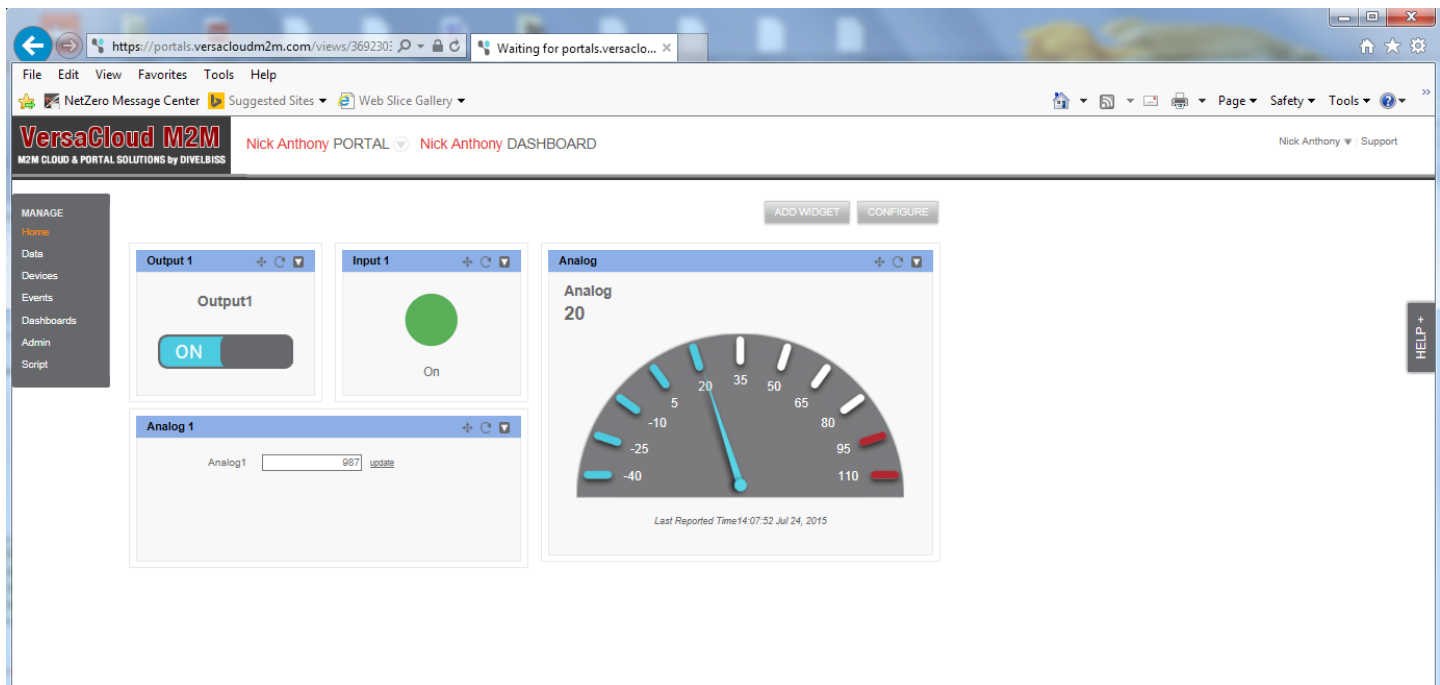

Figure 25 - Completed Application Note Portal Dash Board
8. Click the **Home** selection located on the dash board page side menu to return to the HOME page. Refer to Figure 25. With all the widgets in the application note added to the dash board page, it should be similar to Figure 25. The widgets may be positioned and spaced as required.